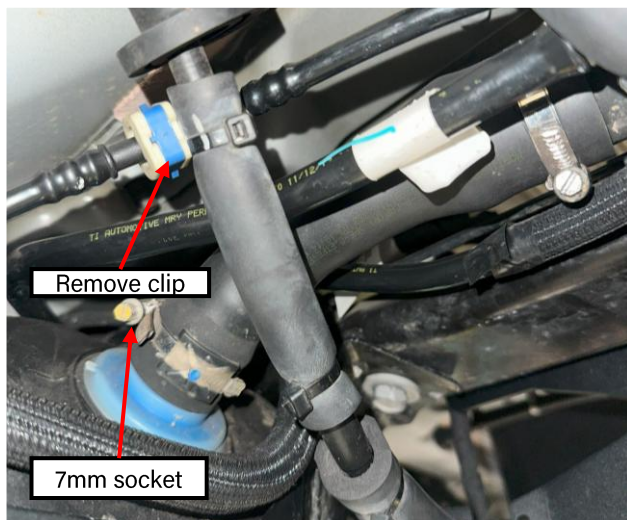

Figure 8: filler neck clamp
- Loosen the filler neck clamp and slip it off the tube using a 7mm socket (Figure 8)